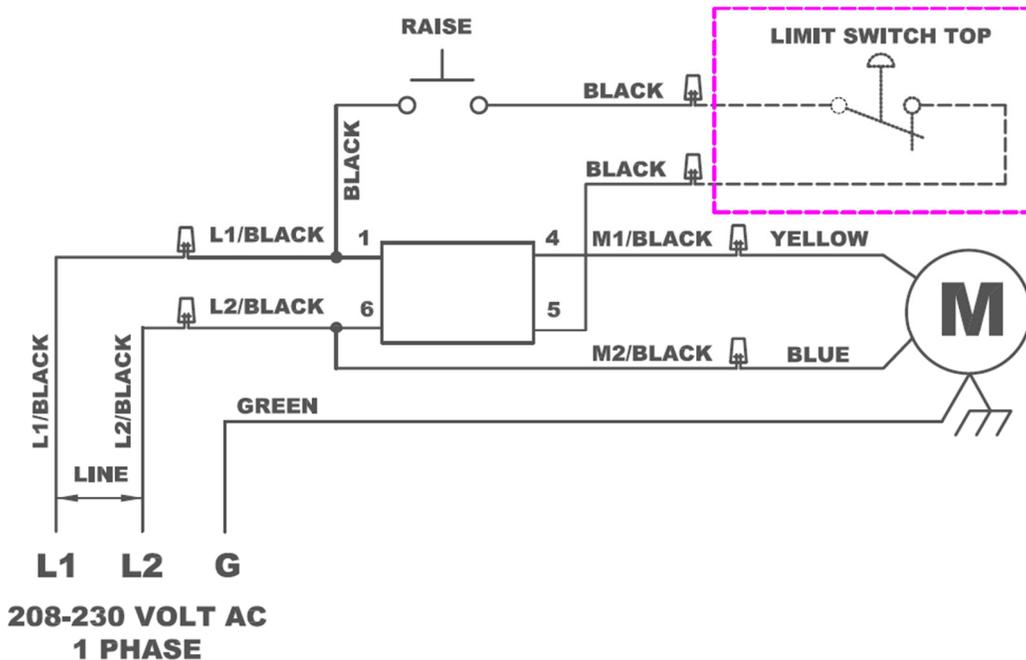

Fig. 15
- A. Have a certified electrician make the electrical connection from power supply to the power unit. Use separate circuit for each power unit, as shown below in **(Fig. 15)**.
- B. Have a certified electrician make the electrical connection for the overhead limit switch to power unit's switch box, as shown in **(Fig. 15)**.